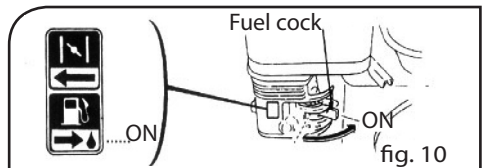

fig. 10
6. Push the fuel cock to ON position (Fig. 10).